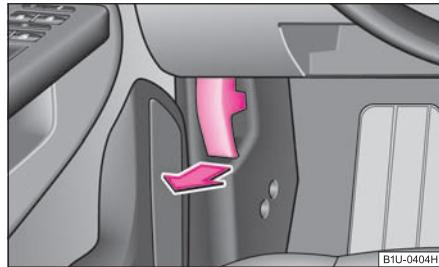

Fig. 142 Bonnet release lever
- Pull the unlocking lever below the dash panel on the driver's side ⇒ fig. 142.
- Unlock the bonnet ⇒ fig. 142.